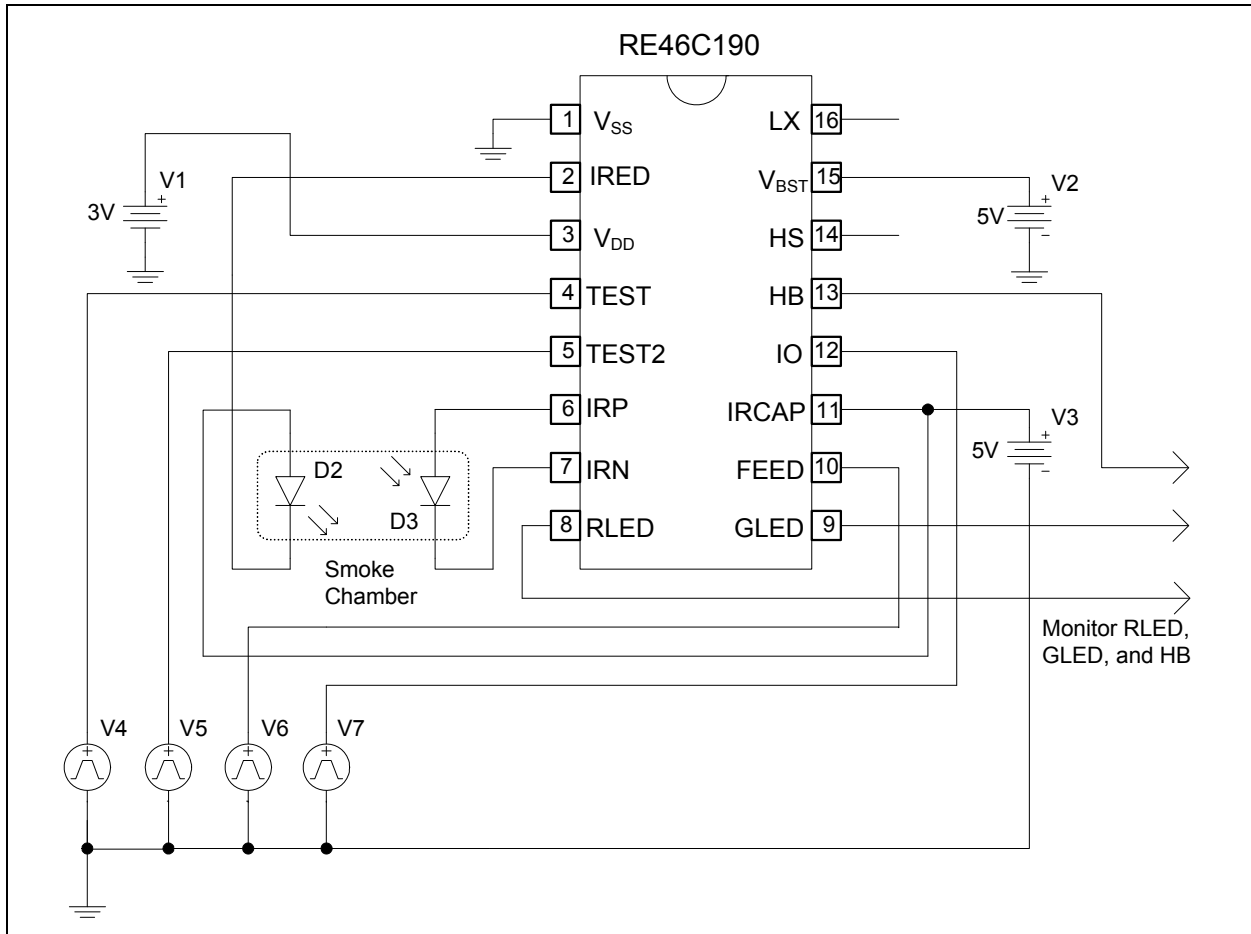
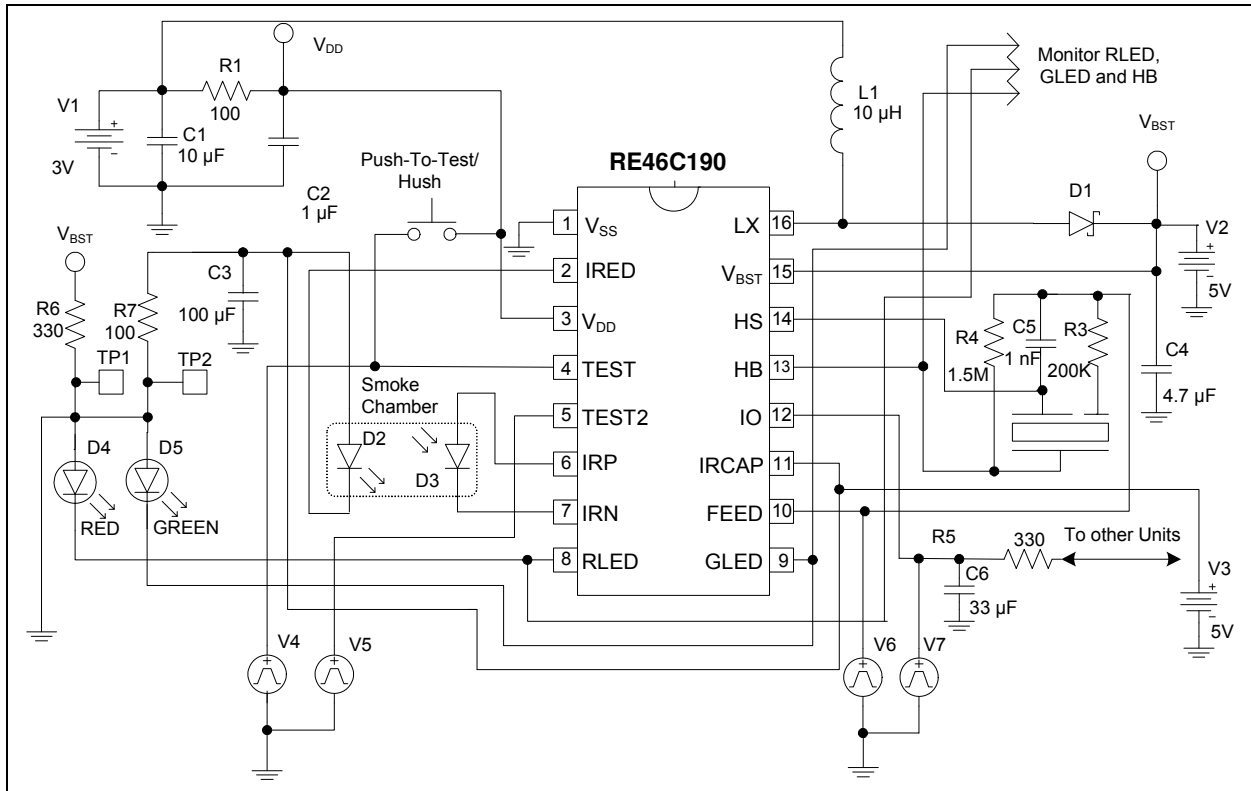

FIGURE 4-1: Nominal Application Circuit for Programming.
FIGURE 4-3: Circuit for Programming in the Typical Application.
1. Power up with bias conditions as shown in Figure 4-1. At power-up TEST = TEST2 = FEED = IO = V_{SS}.
As an alternative to Figure 4-1, Figure 4-3 can be used to program while in the application circuit. Note that in addition to the five programming supplies, connections to V_{SS} are needed at TP1 and TP2.
1. Power-up with the bias conditions shown in Figure 4-1.